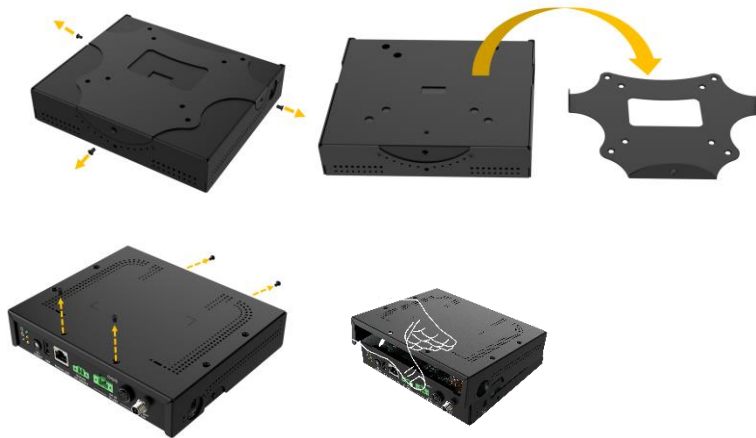

Figure 3-1: VESA Mount & Top Cover Removal
- Step 1:** Remove the three VESA mount screws and four top cover retention screws (Figure 3-1 and Figure 3-2), and then lift the top cover off the AUPS2-B20 Series module.